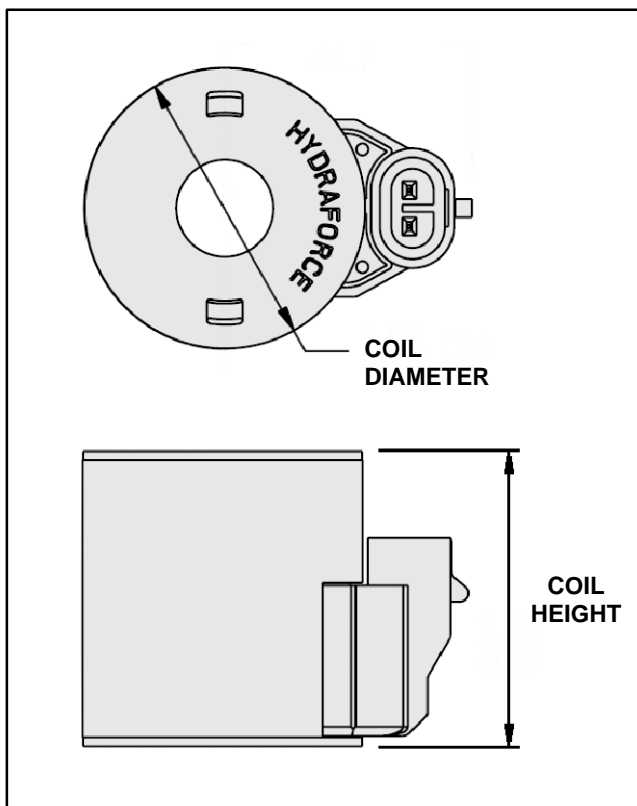

Figure 38
Two (2) different solenoid valve coils are used on the 4500-D and 4700-D. A coil can be identified by measuring its height and diameter (Fig. 38). Testing of the coils can be done with the coil remaining on the hydraulic valve.
2. Locate hydraulic valve solenoid coil to be tested. Identify coil by measuring the coil diameter and coil height (Fig. 38).